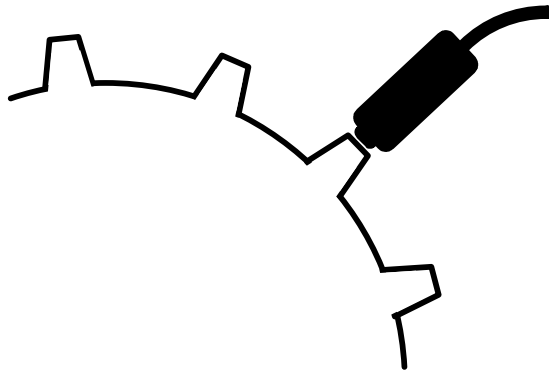
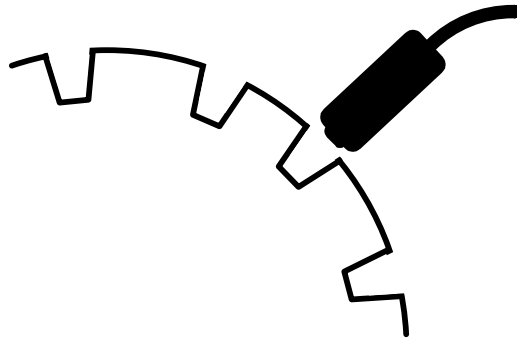
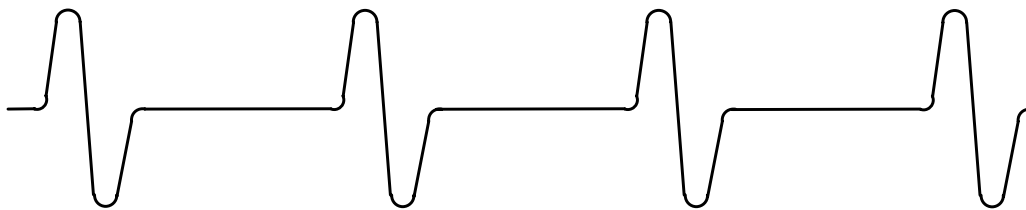
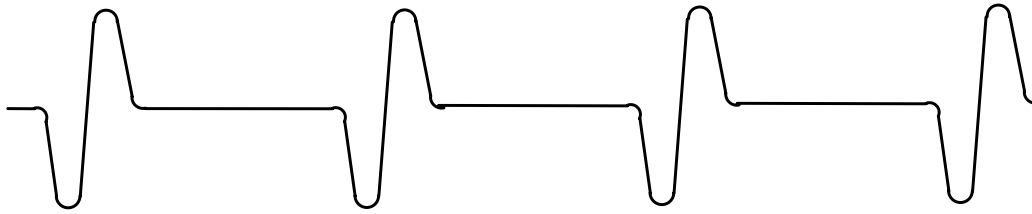

Figure 6. Positive tooth trigger wheel
Figure 7. Negative tooth trigger wheel
Figure 8. Correct signal polarity for VR input circuit
Figure 9. Incorrect signal polarity for VR input circuit
The AD Combo module provides two identical VR sensor inputs. A Variable Reluctance (VR) sensor input is a standard low cost automotive speed sensing input. It is an electro-magnetic sensing device containing a winding of wire around a permanent magnetic core. It relies on the movement of ferrous material (steel teeth) past the tip of the sensor to change the magnetic flux of the sensor. This creates a voltage pulse across the leads of the sensor's wire coil. Figures 8 and 9 below show a typical VR signal with respect to toothed wheels, as shown in Figures 6 and 7. The VR signal will go positive as a tooth approaches the sensor tip. The signal will then rapidly swing back through zero precisely at the center of the tooth. As the tooth moves away from the sensor tip the voltage will continue in the negative direction and then return to zero.
Each VR sensor input requires two connections. The AD Combo module pins labeled VR1 and VR2 are the positive sensor inputs. The negative sensor inputs must be connected to GND pins on the module. The polarity of the sensor connection to the module is critical. The leads of the sensor should be connected such that the positive input of the VR circuit sees the waveform shown in Figure 8. The waveform shown in Figure 9 is incorrect, and the VR circuit will not properly respond to this waveform. The rapid zero crossing of the VR signal must be in the negative direction.
The polarity of the physical tooth or gap on the trigger wheel will contribute to the polarity of the voltage pulse from the sensor. Figure 6 demonstrates a positive physical tooth polarity and Figure 7 demonstrates a negative physical tooth polarity. Assuming the lead polarity of a sensor remained the same, one of the configurations would generate the waveform shown in Figure 8, while the other configuration would generate the waveform shown in Figure 9.